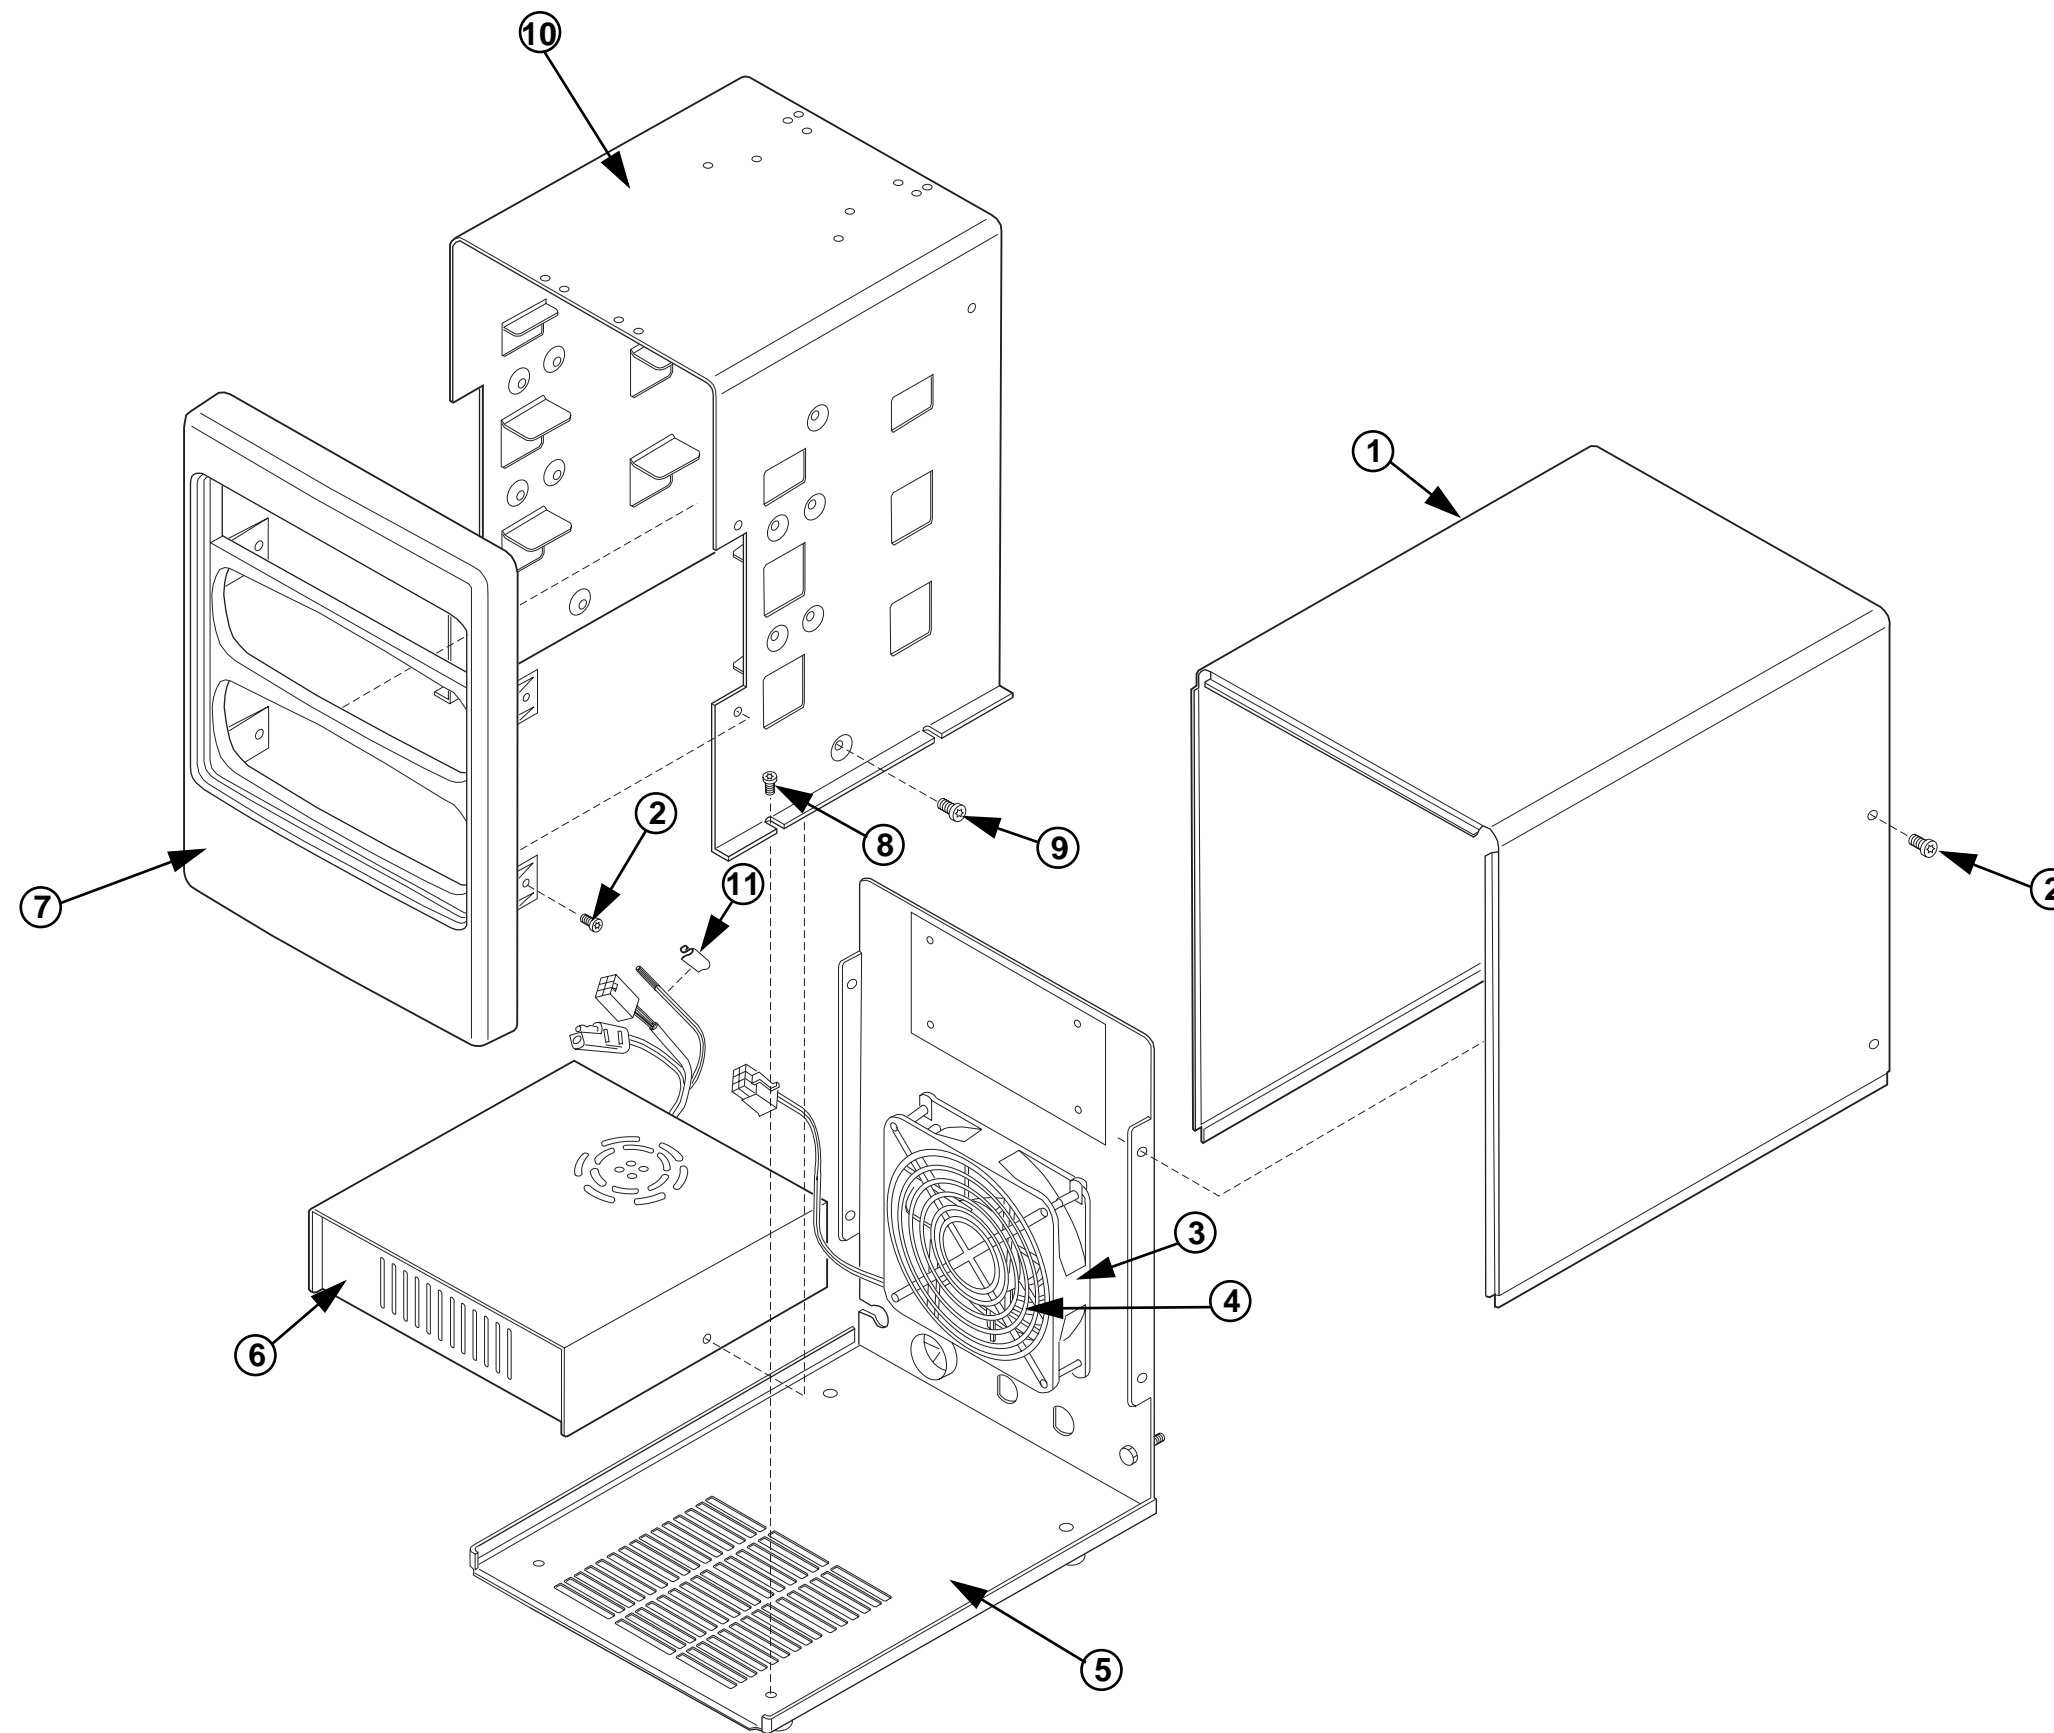

Figure 3-3. CDR700 Repeater Housing
The following steps cover disassembly of the repeater housing. Refer to Figure 3-3, on page 3-5 for identification of each part and its corresponding reference number.
The following steps enable you to reassemble the CDR700 Repeater Station. Refer to Figure 3-3, on page 3-5 for identification of each part and corresponding reference number.
tion) of the CDR700 internal equipment bracket. The front panel of the receive radio faces in the direction of "FRONT" stamped on the top of the internal equipment bracket. Refer to Figure 3-3.
- Place the transmit radio on the lower mounting tabs for the lower radio position. The front panel of the transmit radio faces the same direction as the front panel of the receive radio. Refer to Figure 3-3.